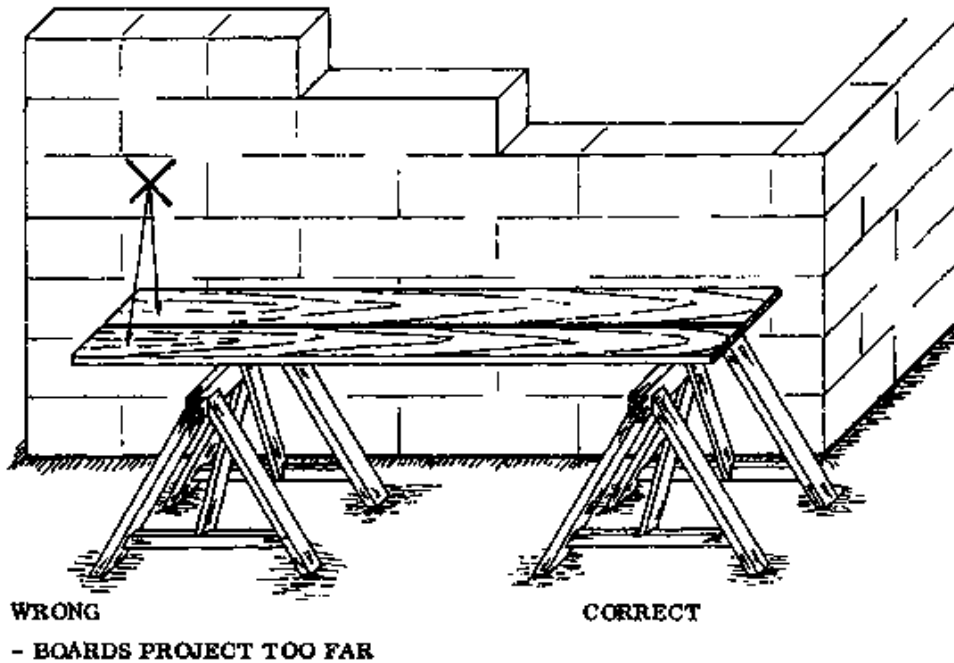

Fig. 2
- TRESTLE SCAFFOLD: This is a low-level scaffold, consisting of wooden trestles covered by two or three boards (Fig. 2). A trestle is a horizontal beam of wood with two legs on each end. Two or more of them are used to support the boards. Set them on firm, level ground, no further than 1,5 m apart. The height of the trestles can be from 75 to 100 cm. Small quantities of blocks and mortar can be kept on the platform. This scaffold enables the worker to continue walling up to lintel height, and to erect the formwork of the lintels.